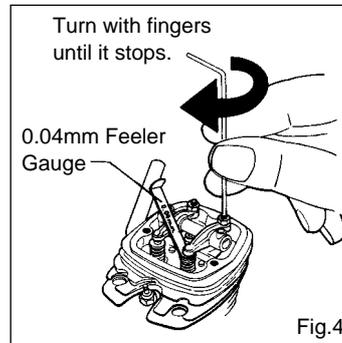

Fig.4
3. Insert 0.04mm feeler gauge between valve stem and rocker-arm and gently turn adjusting screw clockwise until it stops. (Fig.4.)